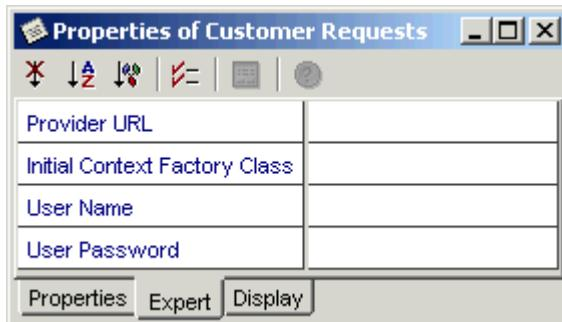

Figure 8-4 Expert Property Sheet
- c. Set the **Expert** properties, shown in Figure 8-4 and described in Table 8-1, to specify the name service of the application server. In particular, the Provider URL should specify the host and port at which the application server is running. For a description of all of the EJB Output Proxy properties, see the *BME Help*.